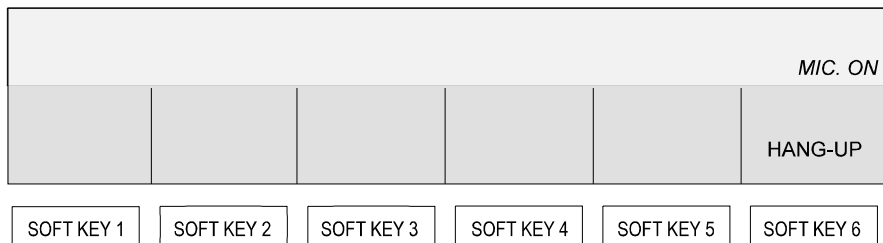

Figure 11. SUPERSET 4 Prompt Display for Speaker On/Off
To activate the speaker phone feature, an application uses the **dial()** function to press the “speaker on/off” key on a specified D/42D-SX channel. To verify that the feature was activated, the application uses the **d42_lcdprompt()** function to retrieve the Prompt Display shown in Figure 11 and check that bytes 41 (HANG) and 45 (UP) are on. The Prompt Display data is shown below.
An application uses the **d42_flags()** function to retrieve the Features Display data for a specified channel on a D/42D-SX and check if byte 1 is on (the microphone is on). If the microphone is on, the application uses the **dial()** function to press the “mic. on/off” key and turn the microphone off. The Features Display data shown below (obtained using the **d42_flags()** function) is read for the MIC ON feature shown in Figure 11.